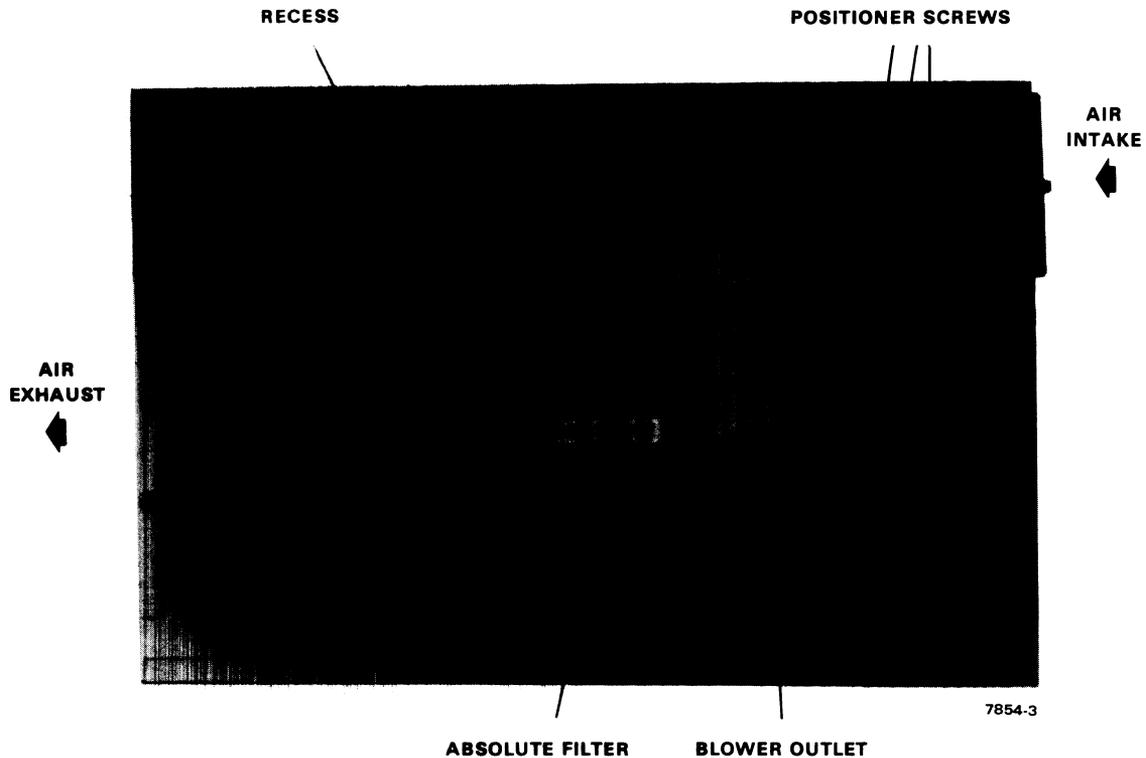

Figure 5-2 Absolute Filter Removal
10. Remove the three screws beneath the baseplate that attach the positioner to the baseplate (Figure 5-2).
2. Insert the three positioner holding screws (Figure 5-2) through the bottom of the baseplate and finger-tighten the screws.